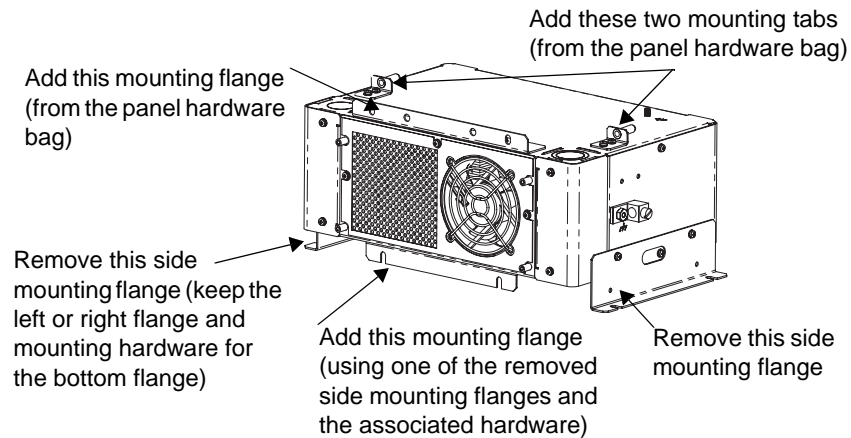

Figure 11 Mounting Flanges for Installation
See Figure 11 for additional information.
3. Take one of the mounting flanges from the mounting hardware bag in the panel shipping box (see Figure 11) and screw it to the top of the XADC. The mounting flange screw holes will line up with the corresponding pilot holes in the XADC.
5. Take the two small mounting tabs (with pilot pin attached) from the mounting hardware bag in the panel shipping box and screw them to the top of the XADC, behind the AC and DC wiring compartment holes, see Figure 11.